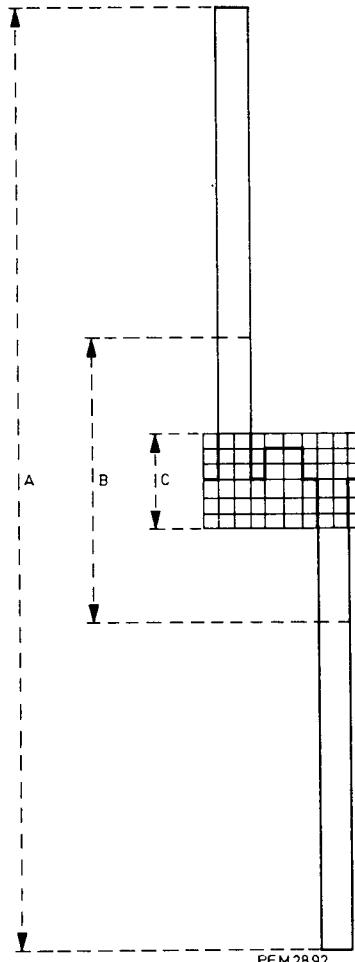
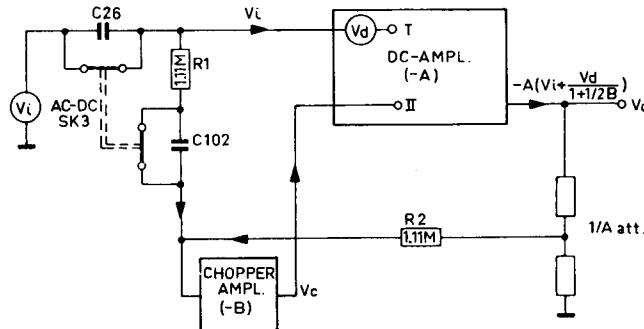

Fig. 9. Limits of Y-deflection
Fig. 10. Control loop
Fig. 9 shows the maximum permitted magnification (A) of a signal together with the portion of the signal (B) which may be displayed on the screen using the POSITION control.
The output of the d.c. coupled l.f. amplifier (V_o) is attenuated by a factor A, at the 1/A attenuator. Voltage V_i is fed to one end of the voltage divider formed by R1 & R2 (fig. 10). The other end of this divider is supplied by voltage V_o/A . Resistors R1 & R2 are both $1.11\text{ M}\Omega$ and the input to the chopper amplifier is therefore $1/2(V_i + V_o/A)$. After amplification, this voltage becomes:
Since $B \approx 1000$, it is clear that drift is reduced by a factor of ≈ 500 . With the AC-DC switch SK3 set to AC, capacitor C102 is connected in series with R1 (Fig. 10) so that the voltage divider formed by R1 & R2 (Fig. 9) is blocked to d.c. Any leakage voltage of C26 is added to the voltage V_d : consequently, the new drift voltage
With the AC-DC switch set to AC, small a.c. signals superimposed upon a maximum of 400 V.d.c. may be observed. At the same time, relay RE101 is energized and this causes C102 to be connected into the comparison circuit which is represented by R1, R2 & C102 in Fig. 10.
When the step attenuator is set to its four smallest deflection coefficients (i.e. 0.5 mV/cm, 1 mV/cm, 2 mV/cm and 5 mV/cm) no attenuation is applied to the input signal. Trimmers C18, C21, C24 and C29 enable the input capacitance to be adjusted to exactly 15 pF. For all the remaining deflection coefficients, attenuator networks are connected between the input terminal and source follower TS101. Trimmers C33, C36, C39, C43, C47, C51, C54, C58 enable the input capacitance to be adjusted to exactly 15 pF, whilst optimum square wave response can be obtained by means of C32, C34, C38, C42, C46, C49, C53, C57. The 1.11 MΩ resistor shown schematically as R1 in Fig. 10 is formed by two resistors (R102 & R103, 110 KΩ and 1 MΩ respectively) which are series-connected in order to form a value which results in a 1 MΩ input resistance. Note that the series combination formed by R102 and R103 is in parallel with the gate current compensation network which includes the 10 MΩ resistor R104. This gate compensation network (which also includes resistors R106, R107, R110, R115 & potentiometer R108) supplies either a positive or negative current, depending upon the setting of R108. This current is required by the source follower stage TS101 which supplies the input signal to the split band amplifier.